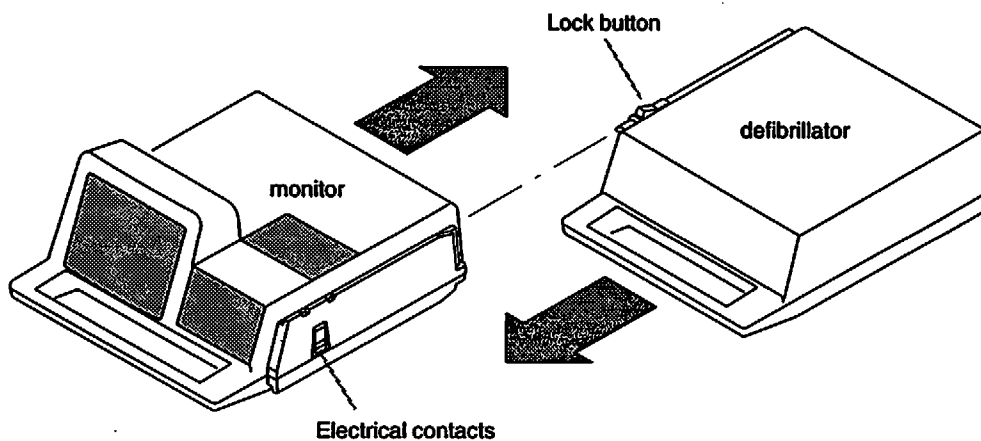

Figure 2-6 Connecting the defibrillator and monitor
- 1 Place the defibrillator behind the monitor as shown in Figure 2-6. Align the slide connectors.